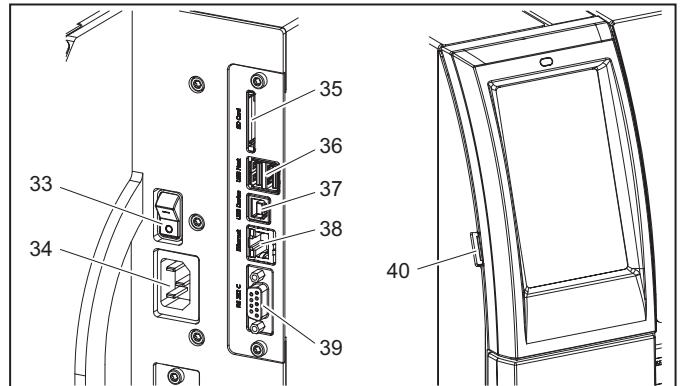

Figure 3.5 Connections
- Insert the power cable in the mains socket (36, Figure 3.5).
- Switch on the printer at the mains switch (33, Figure 3.5).